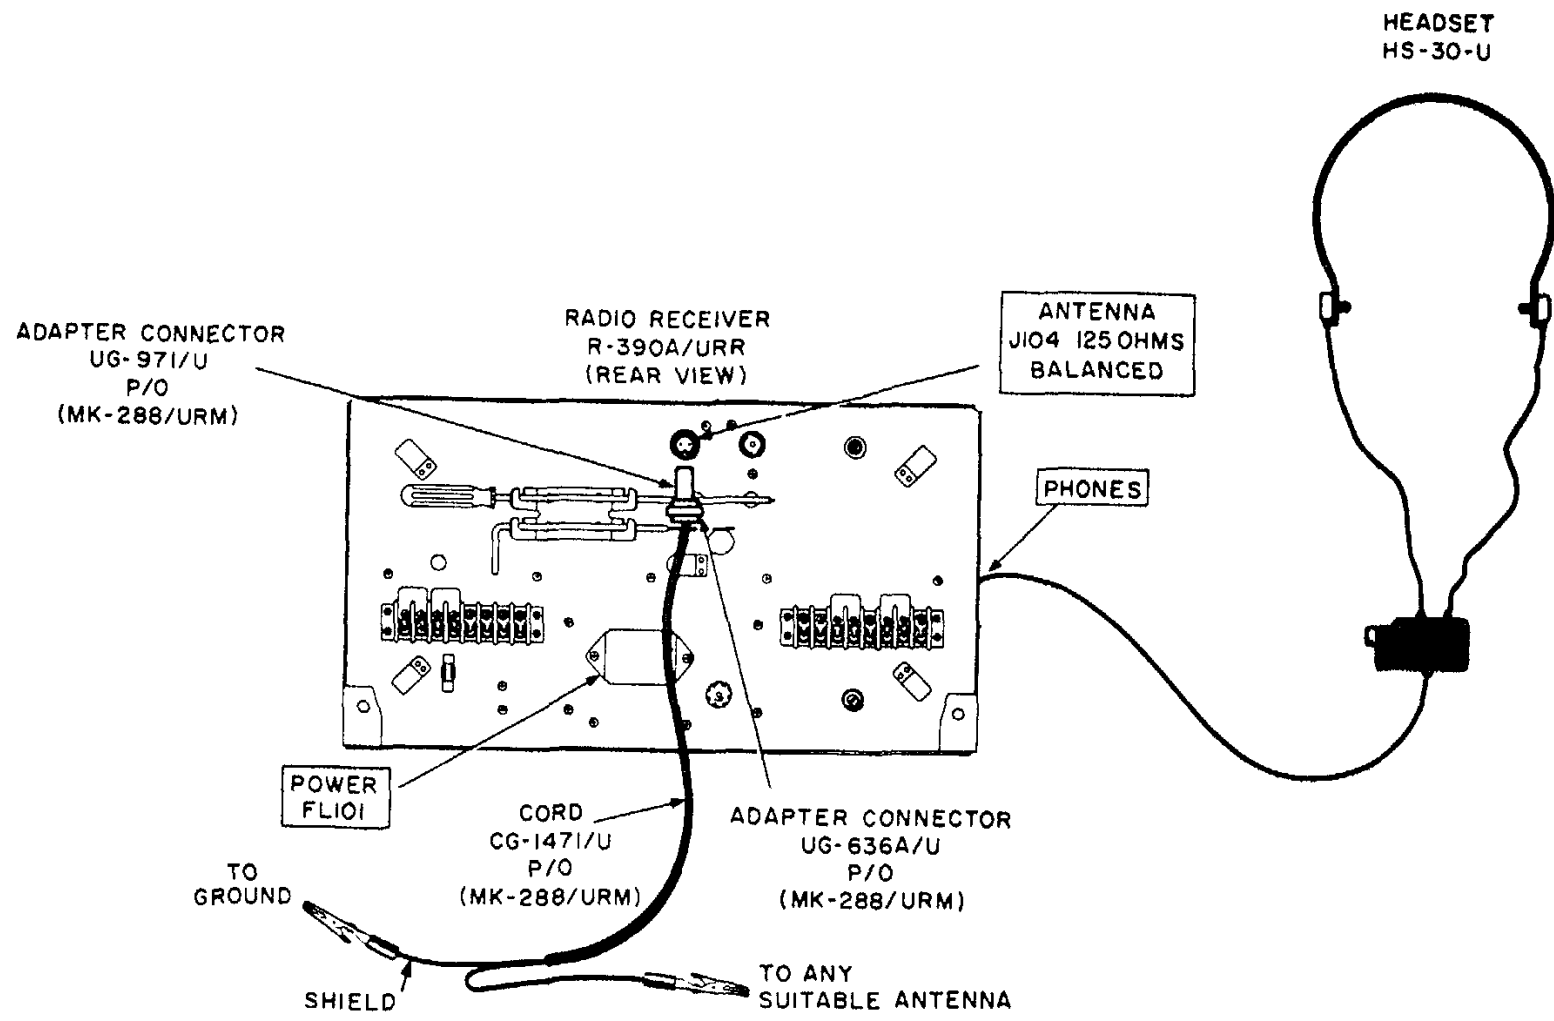

Figure 81. Operating tests setup.
(fig. 81)
b. *Test Connections and Conditions.* Connect the equipment as shown in figure 81. Dial indicators should light.